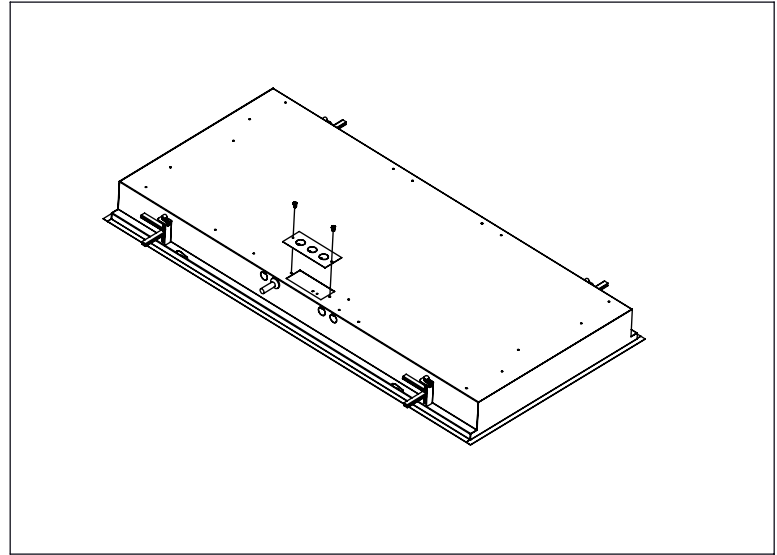

Figure 2
2. Remove Access Cover Panel, make all necessary electrical connections and re-attach Access Cover Panel (Fig. 2).